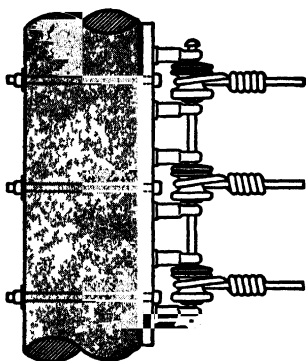

FIG. 16-7. Completed dead end on secondary-rack construction. Two or more through bolts should be used on each rack. (Courtesy Hubbard & Co.)
**Vertical-rack Construction.** In stringing wires on bracket construction, the conductors are unreel and passed through the rack, as shown in Fig. 16-5a. When the desired number of pole spans have been laid in place, the conductors are drawn up and dead-ended. As many as 10 spans can be drawn up at one time in this manner. Figure 16-6 shows a lineman pulling up a secondary main by means of block and tackle, and Fig. 16-7 shows the conductors properly dead-ended on the rack. Note